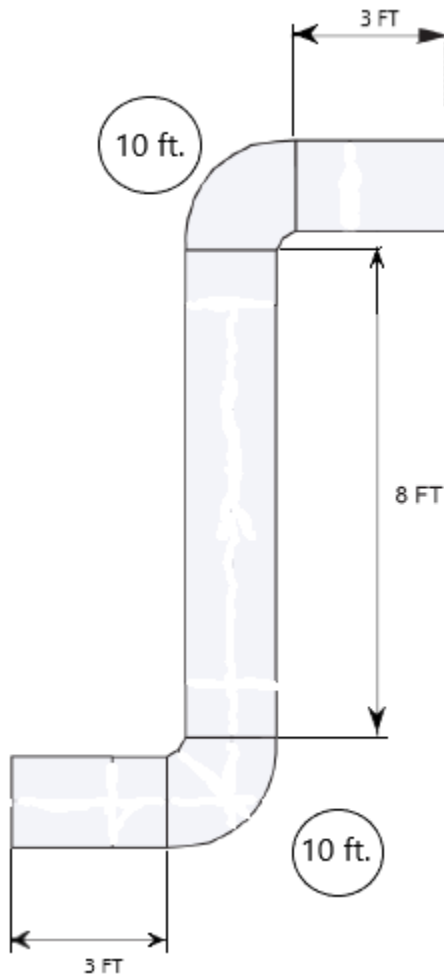

Figure 13. Effective duct length
Duct fitting equivalent lengths values vary for such things as; square, round, material type, angle, radius. For the example shown in Figure 13 we have used an equivalent of 10 ft for each 90 elbow which is a common value for 90-degree elbows. Assuming the louver that gets used is over sized to give the necessary equivalent free are of the duct we will not need to compensate for it. Therefore, lengths of the straight duct plus the equivalent length of the two elbows would give us an effective duct length of 34 ft Because the effective length of the duct is greater than 20 ft the size of the duct will need to be increased by one size over that required by the Code tables.
- Figure 13. “Effective duct length” by Camosun College is licensed under a CC BY-NC-SA licence.